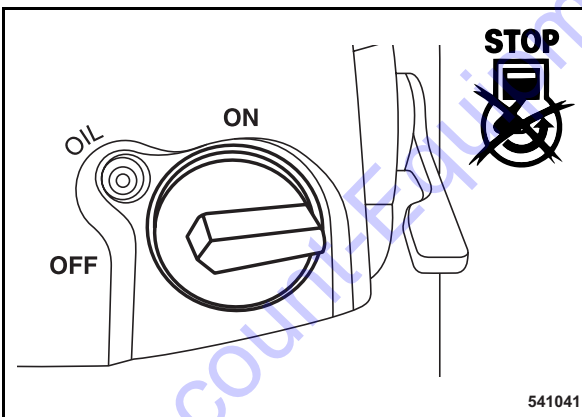

Fig. 26
- Set the engine stop switch (Fig. 26) to position "OFF".